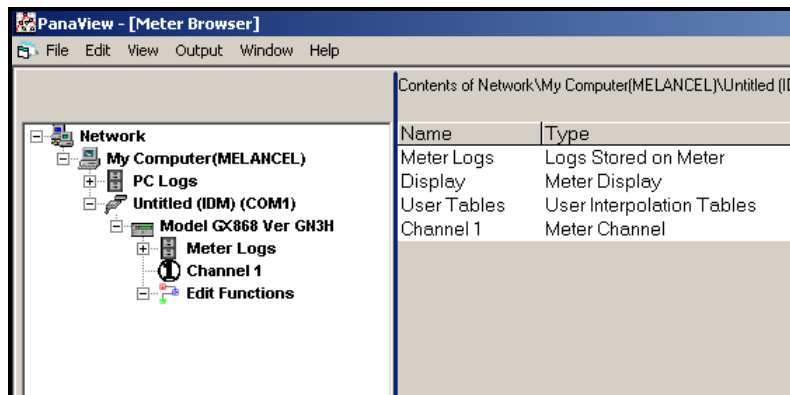

Figure 35: *New Meter Browser* with Meter Branch
3. Then expand the meter tree as shown in Figure 35 below.